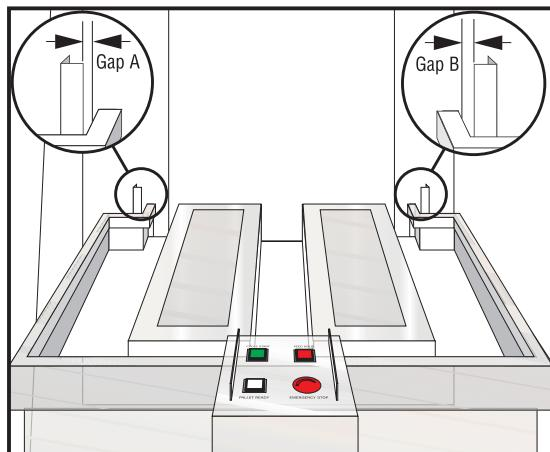
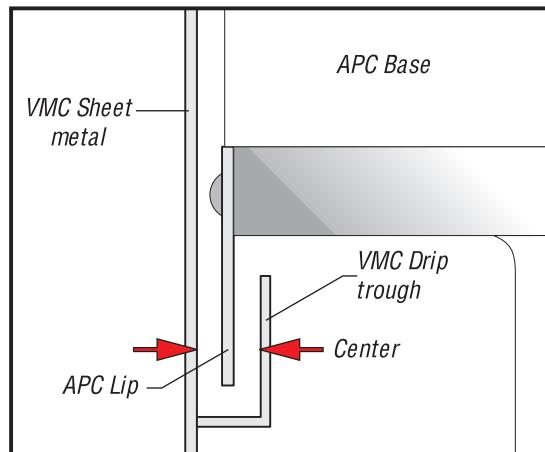

Figure 2.4 Gaps A and B should be equal.
Figure 2.5 The APC lip should be centered in the VMC drip trough.
9. Raise the APC with the forklift and install the leveling screws into the legs. As a preliminary height setting, turn the screws until the length of screw extending above the APC leg is the same as the length of VMC leveling screw extending above the VMC base. Set the leveling pads (3) in place.
10. Set the APC in place on the leveling pads, so that it is centered in the VMC door opening (see Figure 2.4). Ensure that the lip of the APC enclosure is centered in the VMC drip trough (see Figure 2.5).